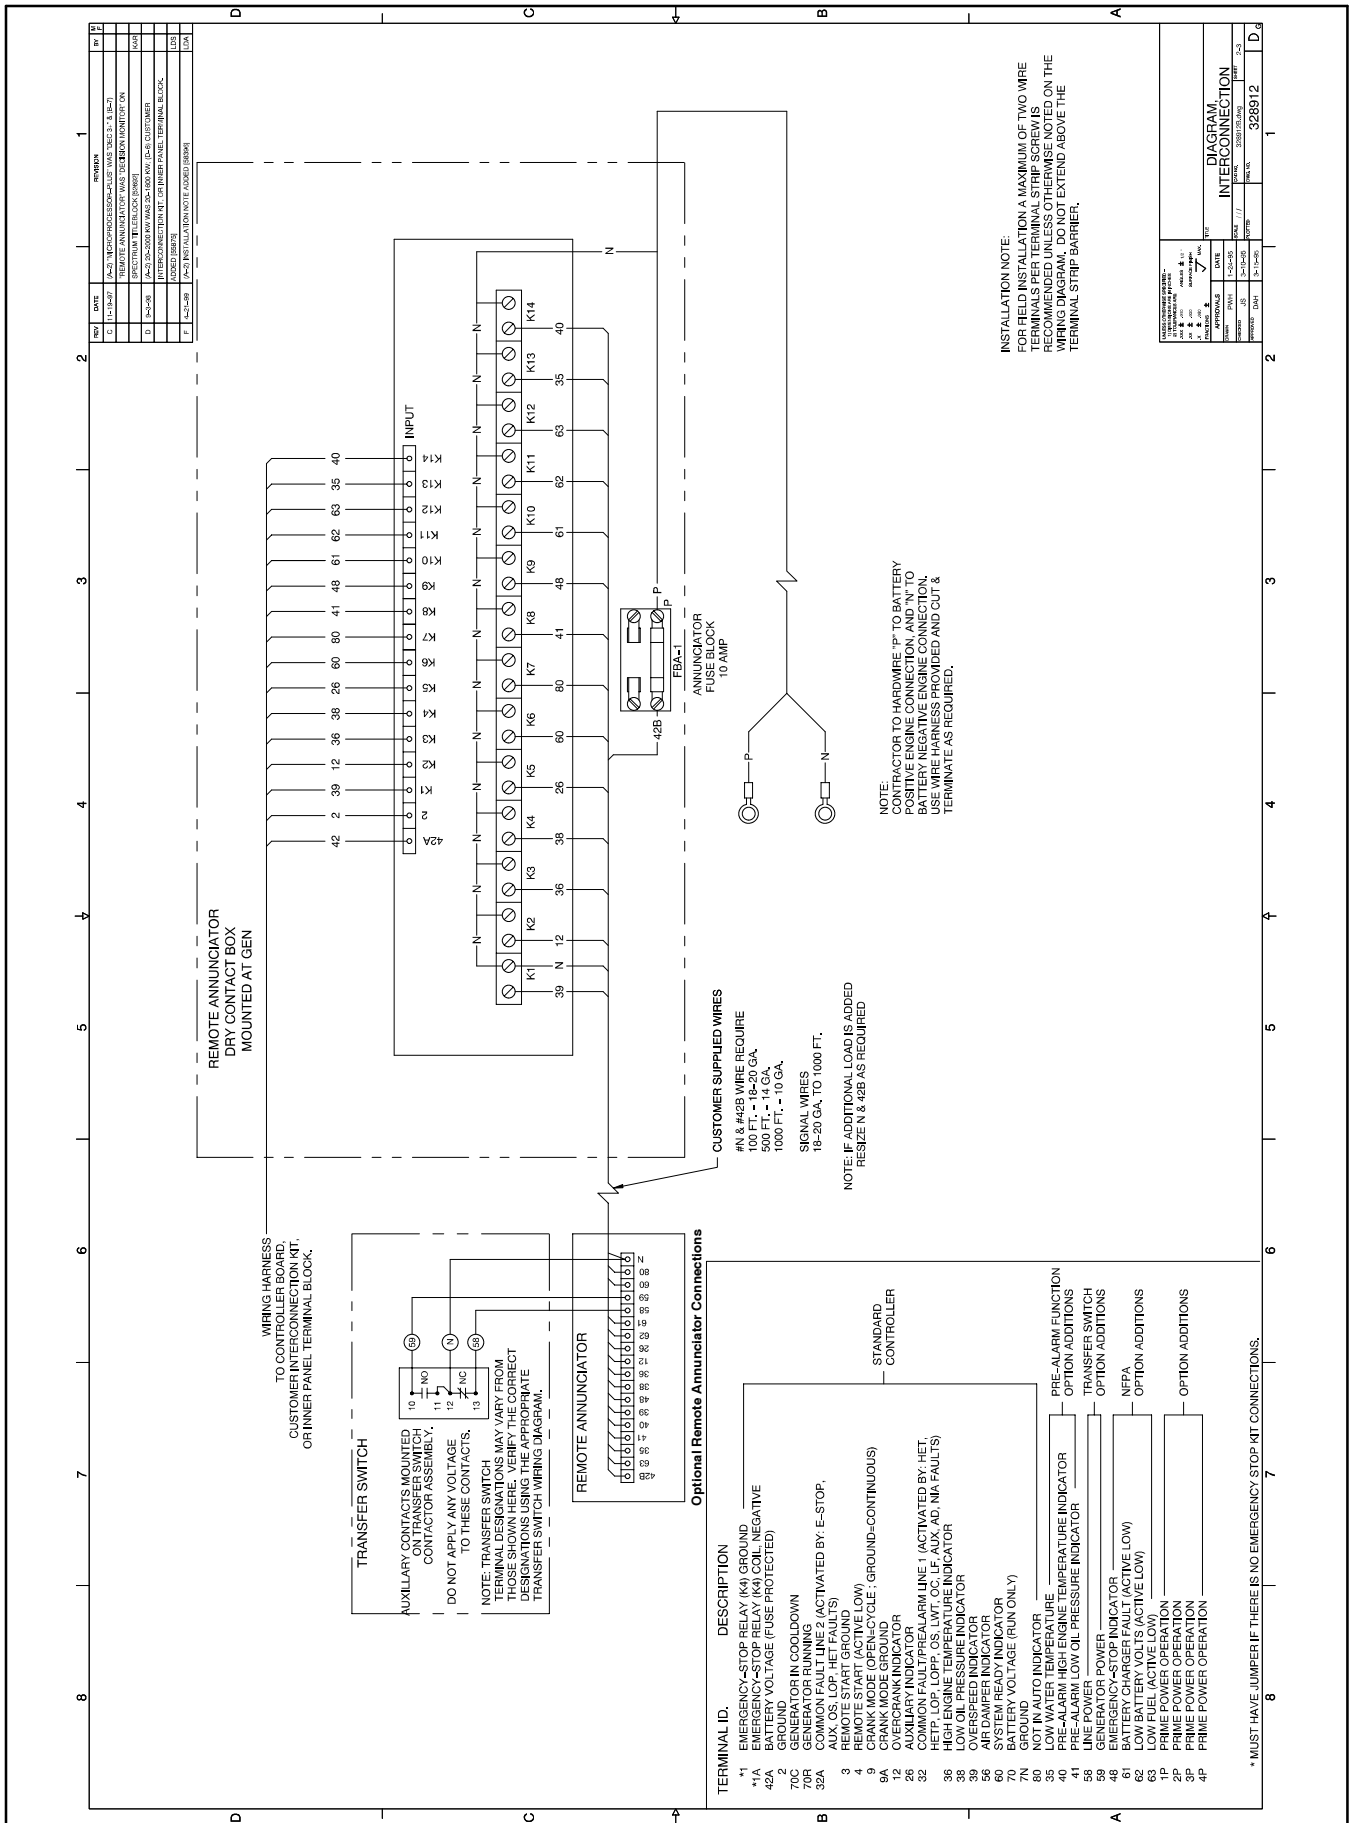

Figure 5 14-Relay Dry Contact Assembly Connections
- 3.1 Connect the 14-relay dry contact wiring harness (293982) to the controller connection assembly in the junction box. See Figure 5.